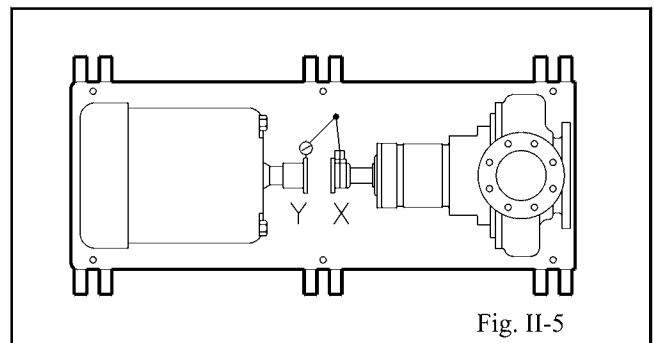

Fig. II-5
3. **Negative Reading** - Coupling half Y is to the left of coupling half X. Correct by sliding driver evenly in the appropriate direction (Fig. II-5).